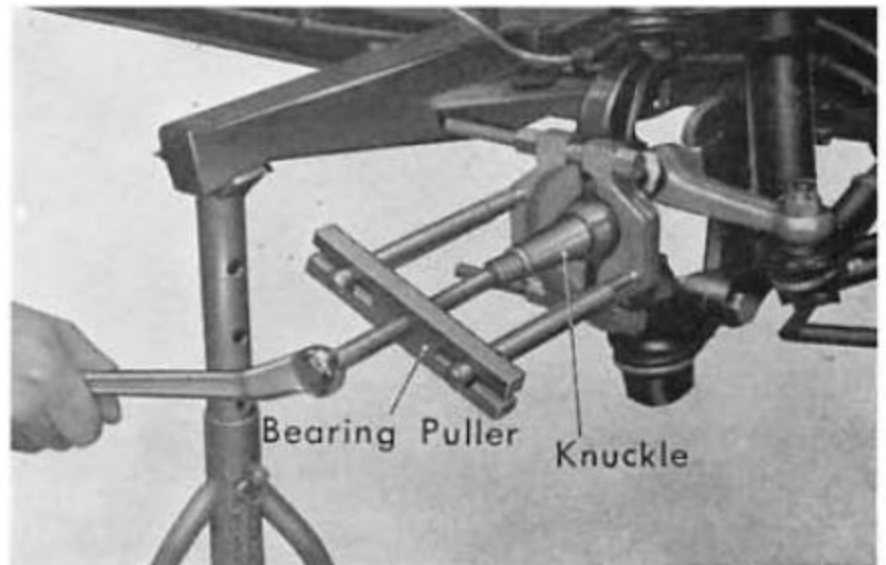

Fig. 15A-1
2. Remove the front hub and the bearing from the knuckle with the bearing puller (Fig. 15A-1, 6).
3. Remove the knuckle nuts, bracket bolts and disassemble the bracket from the knuckle (Fig. 15A-2).